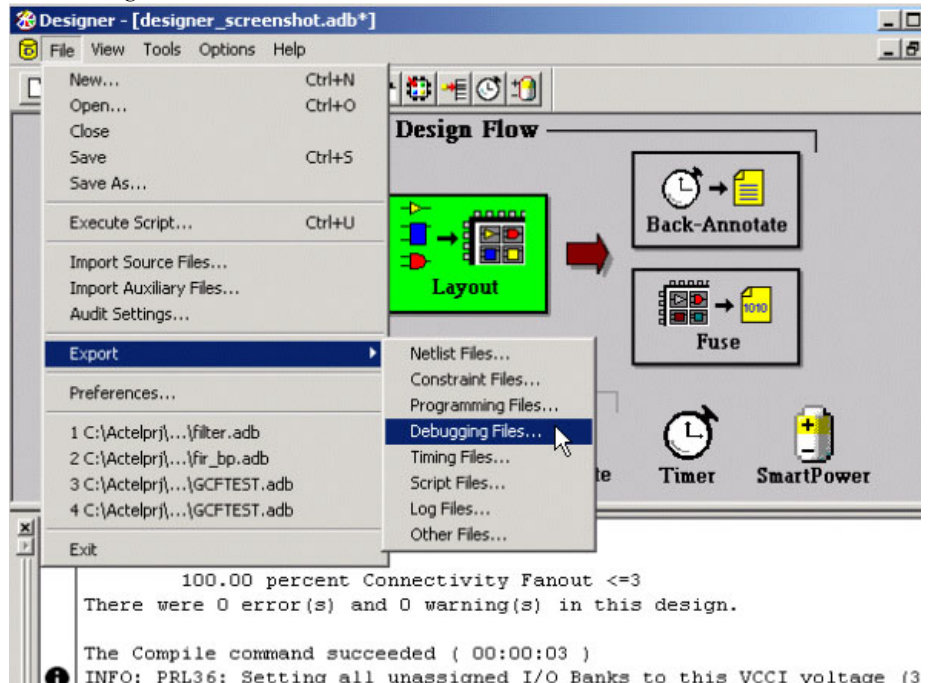

Figure 2-3. Opening the Export Debugging Dialog Box
3. Open the Export dialog box. Select Export from the File menu to view the Export dialog box (Figure 2-3).